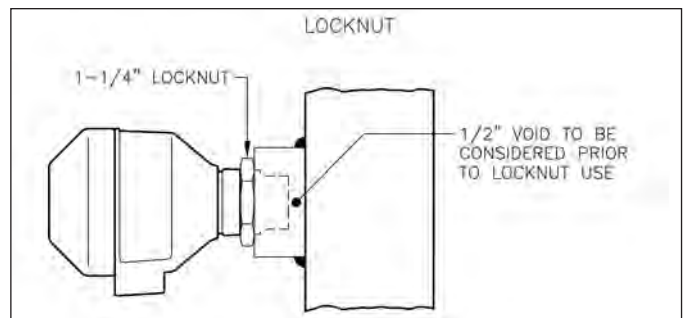

Figure 7
**Locknut** - (See Figure 7) A chrome-plated 1 1/4" NPSM locknut is available in cases where particular positioning of the sensor in the mounting apparatus is desired. Some mounting couplings (straight thread types) may require a locknut to achieve flush mounting. Using the locknut with other mounting couplings (tapered thread types) may prohibit flush mounting. Therefore, careful consideration should be made to insure the mounting technique does not create a void where material could accumulate in front of the sensor's process seal.